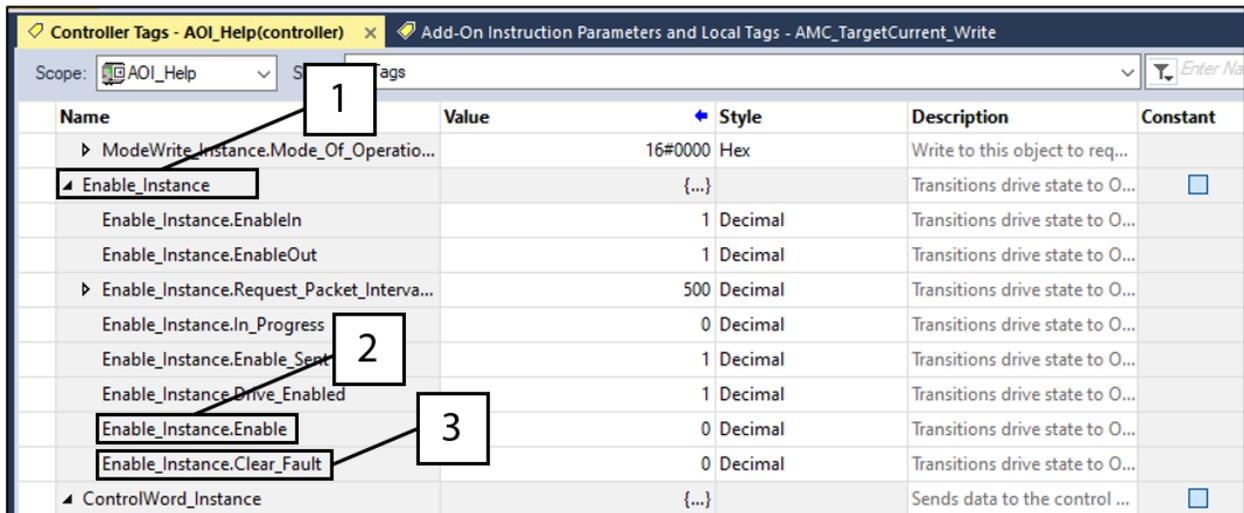

Figure 16 Controller Tags – AOI_Help(controller) Screen
5. Enter the RPI (Request_Packet_Interval_RPI) so the sequence of commands is sent with a delay between transitions. The units are in milliseconds. If the process skips steps, increase the interval time. Once configured, the **Enable_Instance** tag (Figure 16 [1]) will be placed in the list of controller tags.
Two input parameters (Enable_Instance.Enable and Enable_Instance.Clear_Fault) are mapped to the Enable_Instance tag. Setting the **Enable_Instance.Enable** (Figure 16 [2]) value to high (1) will transition the drive to "Operation Enabled." Setting the **Enable_Instance.Clear_Fault** (Figure 16 [3]) value to high (1) will clear latched faults.